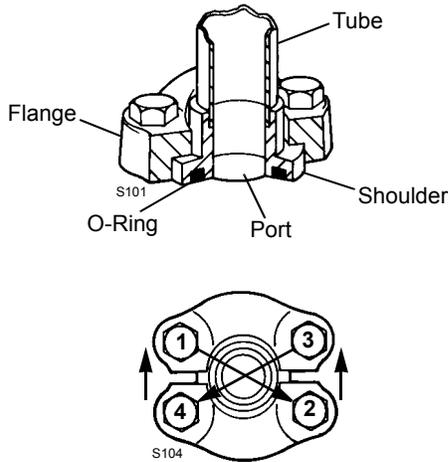

FIGURE 2-10
1. Lubricate and install the o-ring in the shoulder groove (see Figure 2-10). Align the shoulder with the port and assemble the flanges over the shoulder.
2. Snug bolts in a diagonal manner (Figure 2-10) to 1/3 of torque given in Table 2-7.